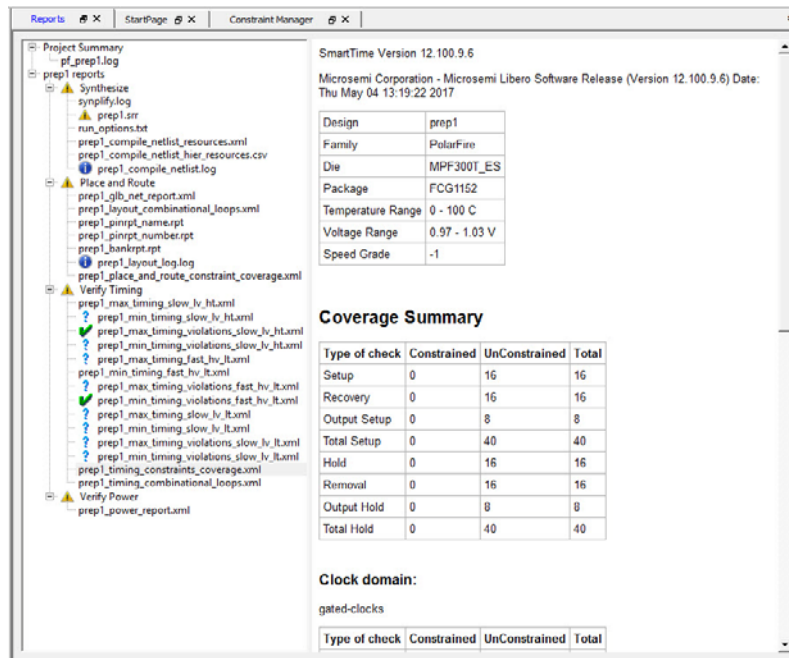

Figure 2-7 • Constraint Coverage Report
It is important to generate a Constraints Coverage Report (Figure 2-6, Figure 2-7) because the timing report only analyzes timing performance for design paths with timing constraints. Timing paths without timing constraints may have timing violations and are not reported.
- The Coverage Summary report is displayed (see Figure 2-7).